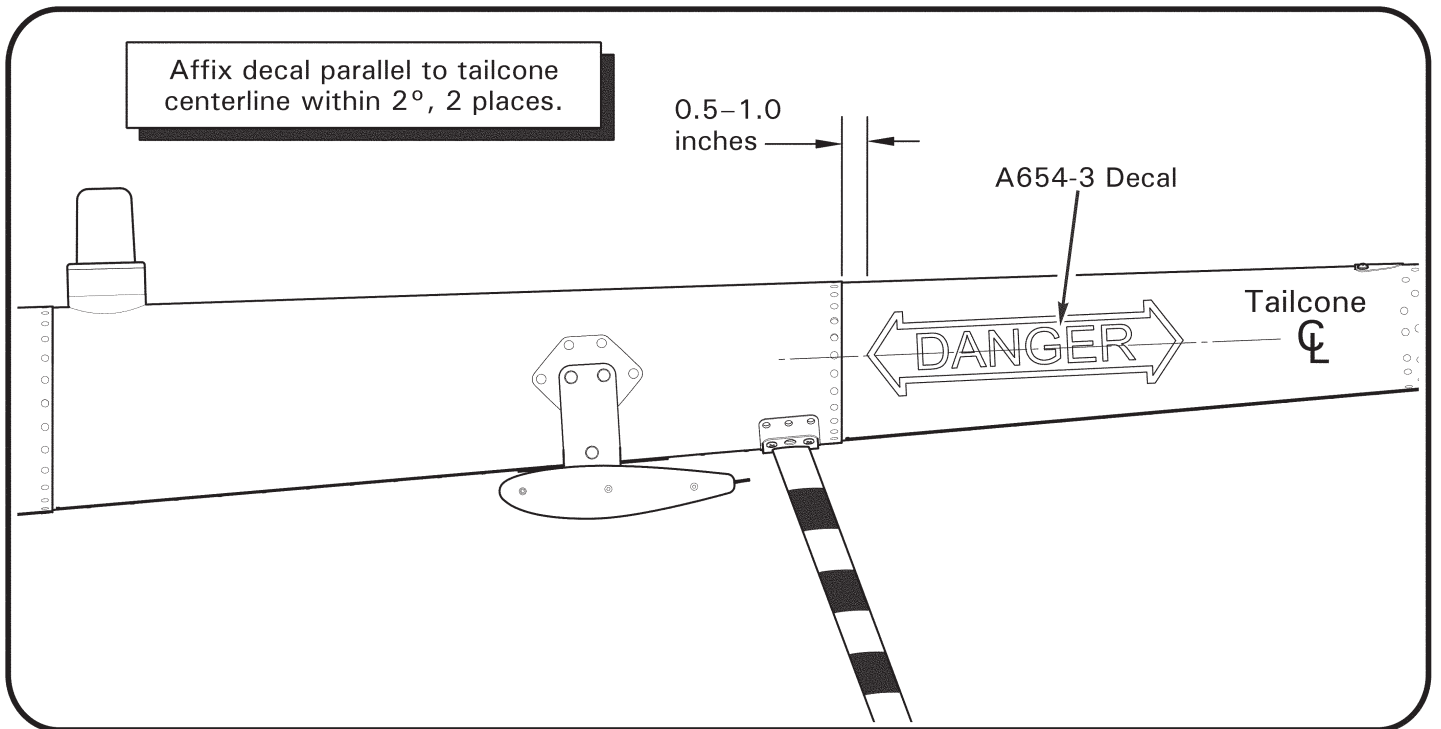

FIGURE 10 A654-3 decal installation
21. Refer to Figure 10. Install A654-3 decal to both sides of tailcone in location shown, per MM § 21-10.